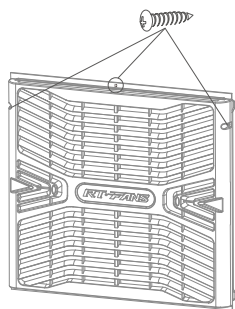

图4.2 / fig4.2
- 请准备一把十字螺丝刀，以控制面板左侧为正前方，拆下当前位置的百叶（如图4.2）。
- Prepare a cross screwdriver, take the left side of the control panel as the front, remove the louver at the current position. (fig4.2)